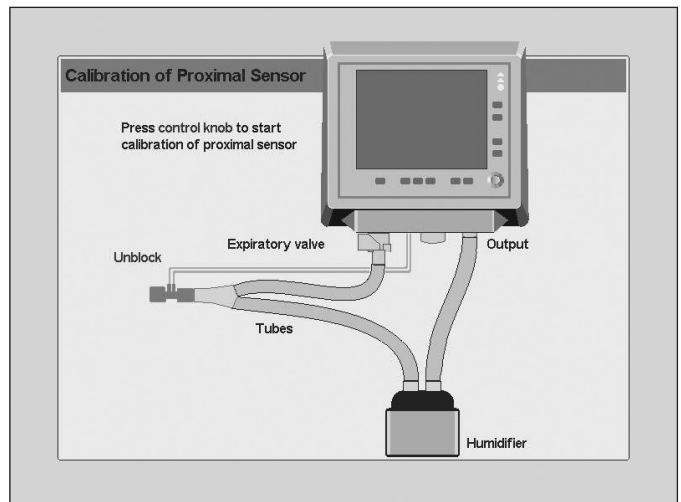

Fig. 7-18 Screen image prior to the second stage of the proximal flow sensor calibration
2. Then, in order to complete the calibration procedure, release the end of the proximal flow sensor as shown in Fig. 7-18